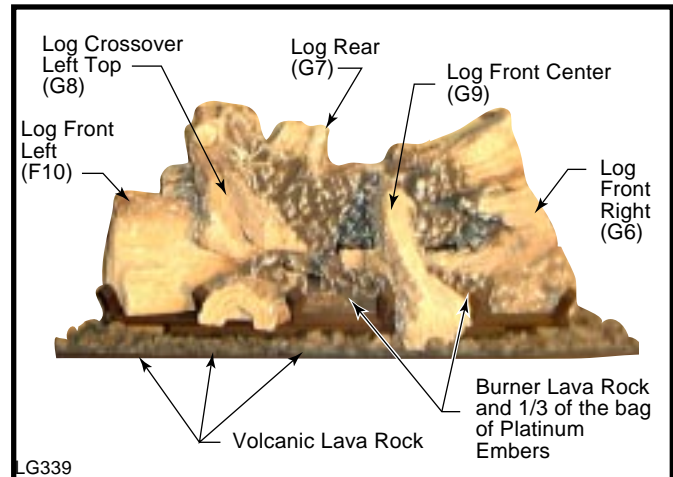

Fig. 48 DVRT41 log, burner lava rock, platinum embers and volcanic lava rock placement.
Refer to Figure 48.
1. Fit rear log (G7) in place. The two (2) underside holes of the log fit over the two (2) pin studs of the rear log bracket.
4. Place burner lava rock and 1/3 of the bag of platinum embers on the front area of the burner. (Fig. 48)
7. Place large lava rock around the front grate area as shown in Figure 48.